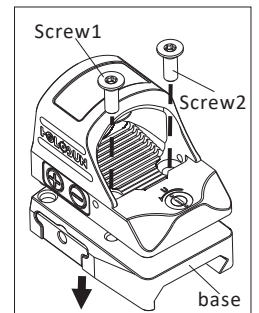

Fig 6-1
1. Remove the two screws shown in the figure 6-1 and remove the rail mount from the HS507C.